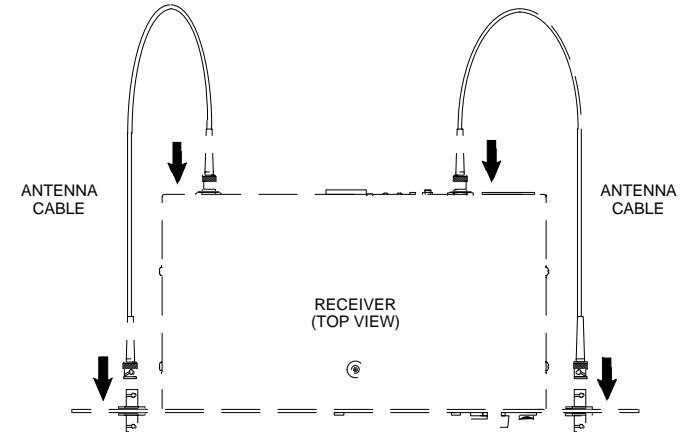

FIGURE 7
2. Connect the supplied antenna cables to the receiver and the bulkhead adapters, as shown in Figure 7.